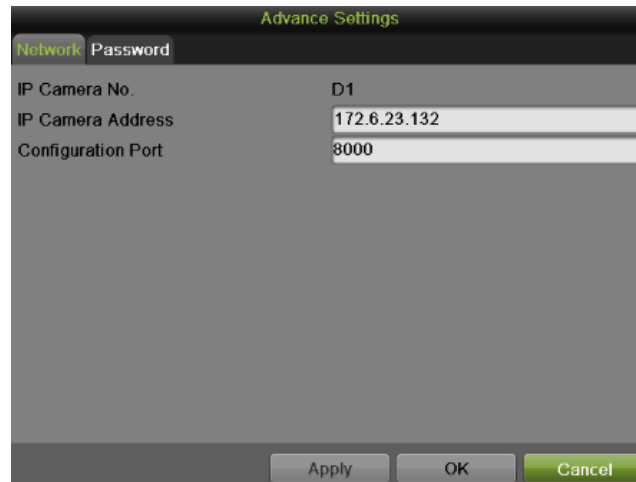

Figure 158 Advance Settings Menu
4. For editing more parameters, click the Advance Set button to pop up an Advance Settings window, as shown in **Figure 158**.